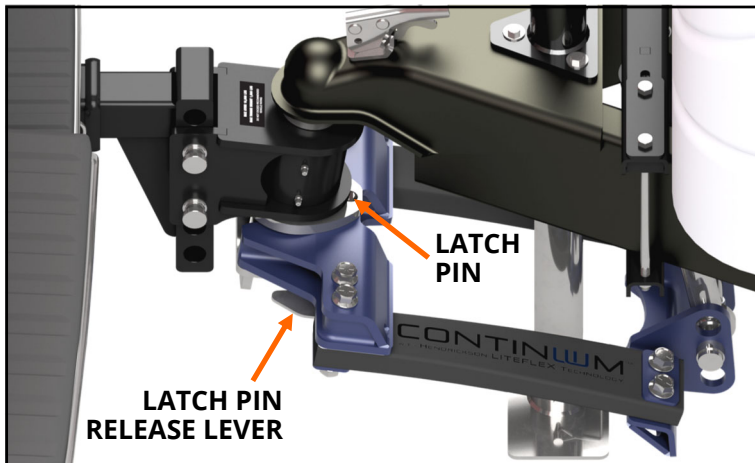

FIGURE J1: View of the driver side of A-frame.
3. **Disconnect the load bar assembly.** Retract the latch pin by pulling up on the latch pin release lever, **as shown in Figure J1**. Pull the load bar assembly out of the head unit. Place the load bar into the fork holder bracket or use the safety chains to hold the load bar assembly.